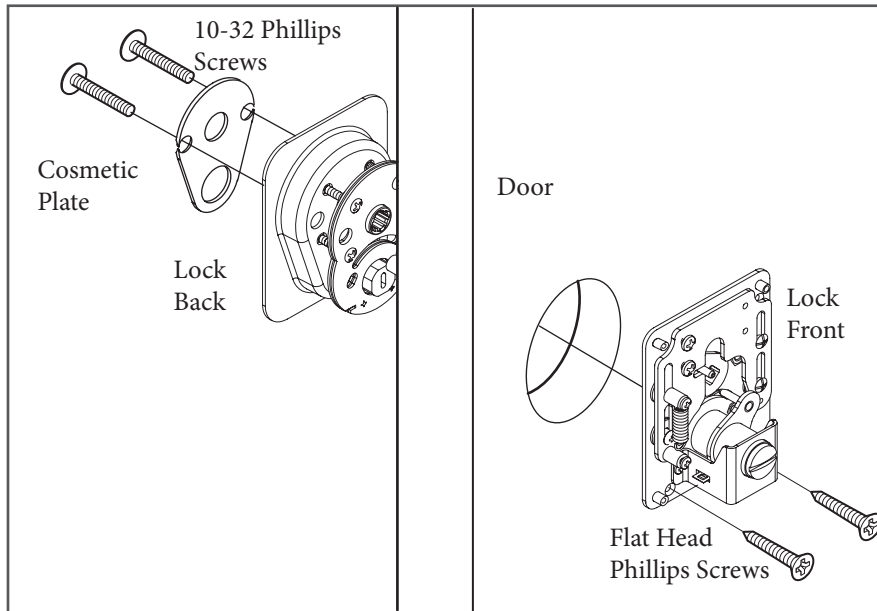

Figure 12
19. Insert the lock back into the hole on the back of the door (Figure 12).
20. Insert the front of the lock through the hole in the front of the door (Figure 12).